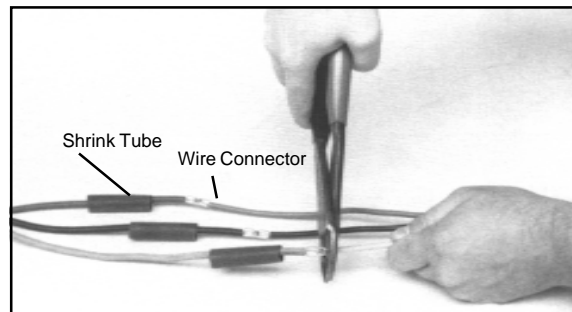

Figure 2
3. With the connector secured in the well seal, slip a shrink tube (as supplied, P/N 96022795) over each individual wire before crimping the wire connectors. (See Figure 2)
The white wire of the connector matches to the yellow motor lead wire. Insert matched wires into wire connectors and crimp. (See Figure 2)